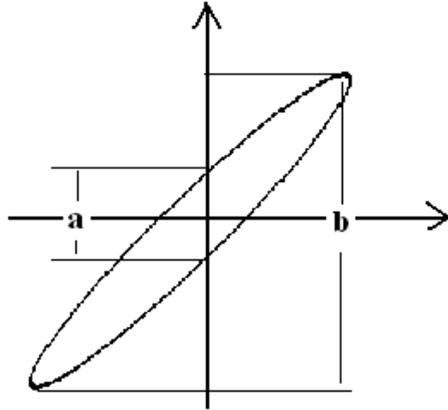

Figure 7. Determination of the phase difference using XY mode
Phase difference can be solved using eq. (2) from the quantities a and b in Figure 7: